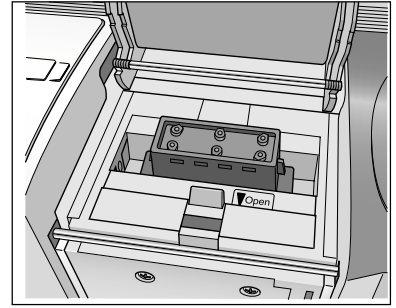

figure 5
- ⑤ Insert a stamp between the doors so that the teeth in the center of the doors fit into the notches in the center of the stamp (see figure 5). Make sure that the stamp surface lies flat on the printed draft sheet.